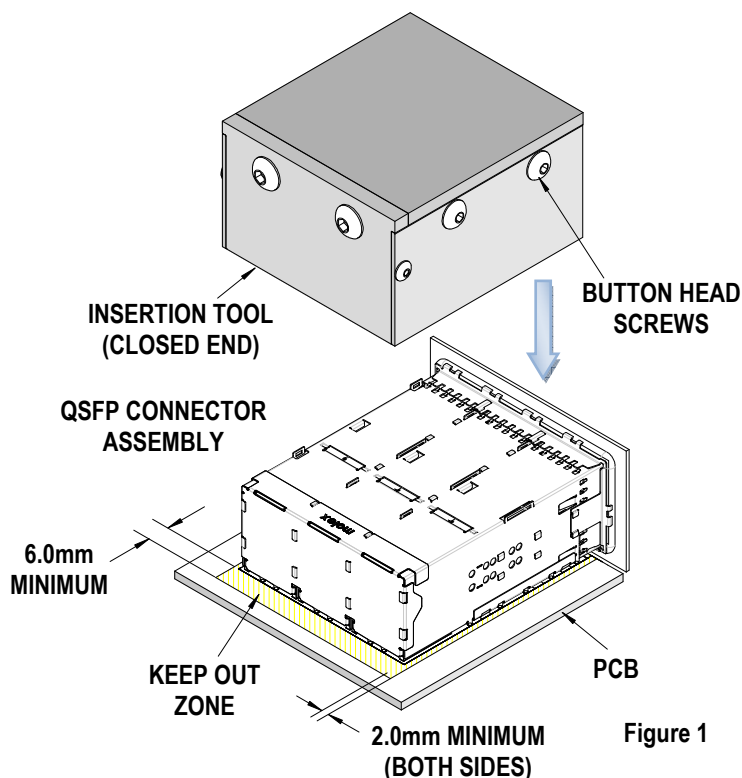

Figure 1
2. This tool requires a “Keep Out Zone” around the connector free of components. The rear of the connector should be 6.0mm (0.236”). The right and left sides should be 2.0mm (0.078”). See Figure 1.